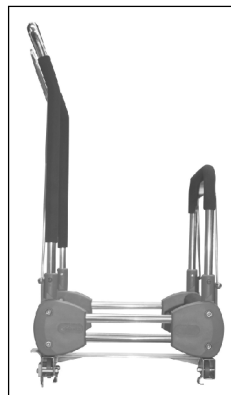
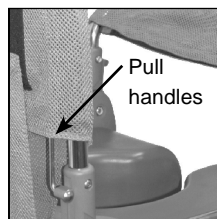
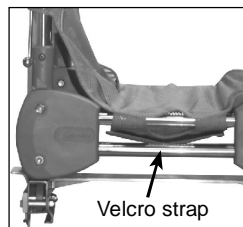
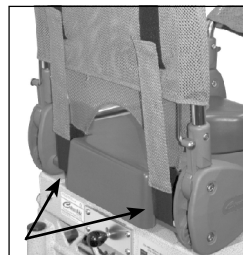

Figure 3
Figure 4
Figure 5
Figure 6
- Pull on the angle adjustment pull handles (A, G) to set the backrest and calf supports to the most upright position (Fig. 3). Slip the cover over the backrest and adjustment pull handle and then calf support and pull handle (Fig. 4). Wrap the velcro straps around the top side-tube and secure underneath the seating (Fig. 5).
- Pull on the back angle adjustment pull handle (A) to set the backrest support to the most upright position (Fig. 3). Slip cover over the back rest and adjustment pull handle (Fig. 4). Wrap the velcro straps around the seat frame and secure underneath the seating (Fig. 6).